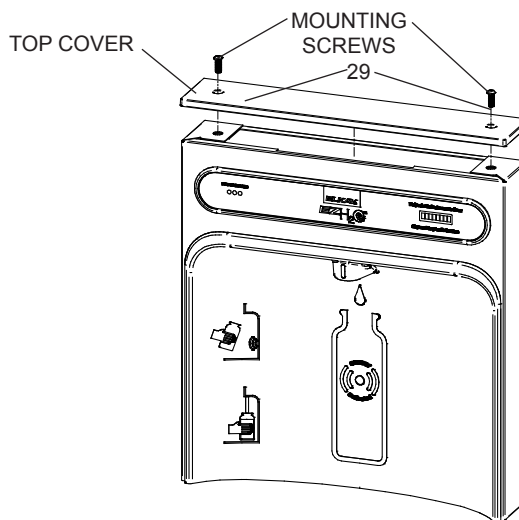

Fig. 5
- 1) **Remove two (2) mounting screws** with 5/32" Allen wrench holding top cover to Bottle Filler (See Fig. 5). Remove top cover. Note do not discard mounting screws, they will be needed to reinstall top cover.
- 11) **Once Bottle Filler is installed** on wall plate tabs, water line, wire(s) and power cord are installed properly, push top of Bottle Filler toward wall and line up top cover two (2) holes.
- 12) **Reinstall Top Cover on Bottle Filler** (See Fig. 5) with two mounting screws from step 1 above. Caution, do not over tighten screws.